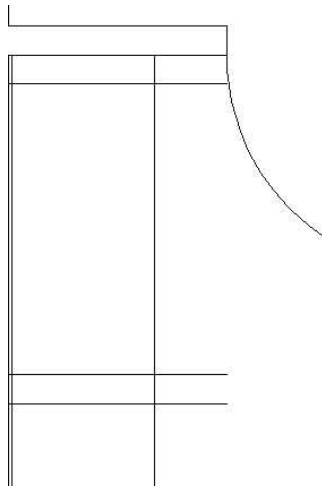

FIGURE 5.64: The offset sink polyline
- b. Offset the same inside wall line 1/2" (13 mm) to frame the counter and the mirror.Your sink area should look like Figure 5.64.